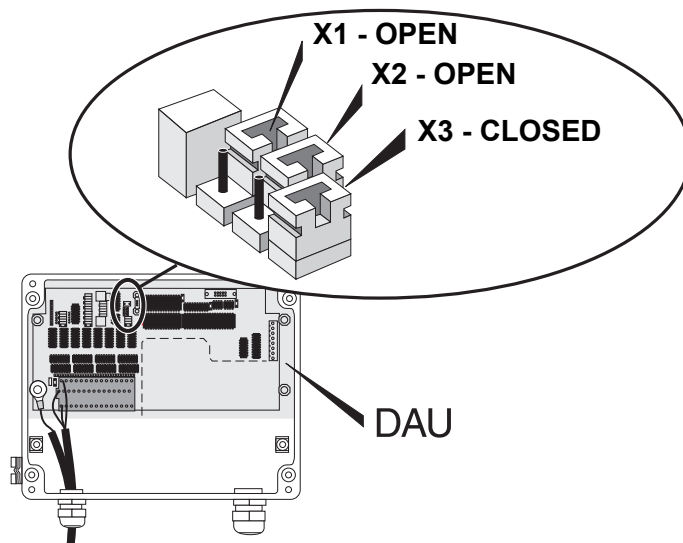

Figure 4-26. Jumper settings for temperature range -50 to 125°C
- 2 Set the **jumper X1, X2 and X3** on the DAU's circuit board in the correct positions for the desired measurement range. The jumpers are set according to Table 4-3. See also Figure 4-26. The default setting is from -50°C to 125°C for the Pt 100 sensor.